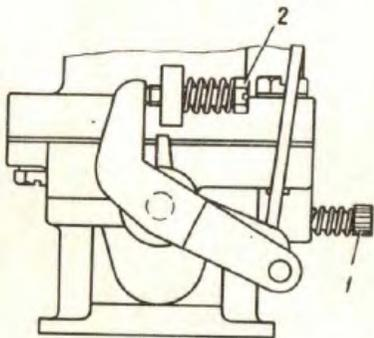

Fig. 24. Carburettor Adjusting Screws;
1. Turn screw 2 (Fig. 24) to a position where the engine idles steadily at the minimum possible speed. Engine speed is increased by turning screw 2 in and decreased by turning it out.